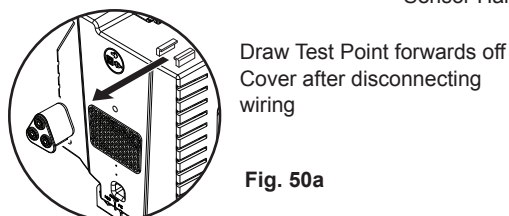

Fig. 50a
10.3.6 "Socket & See" Electrical Test Point (Fig. 50a)